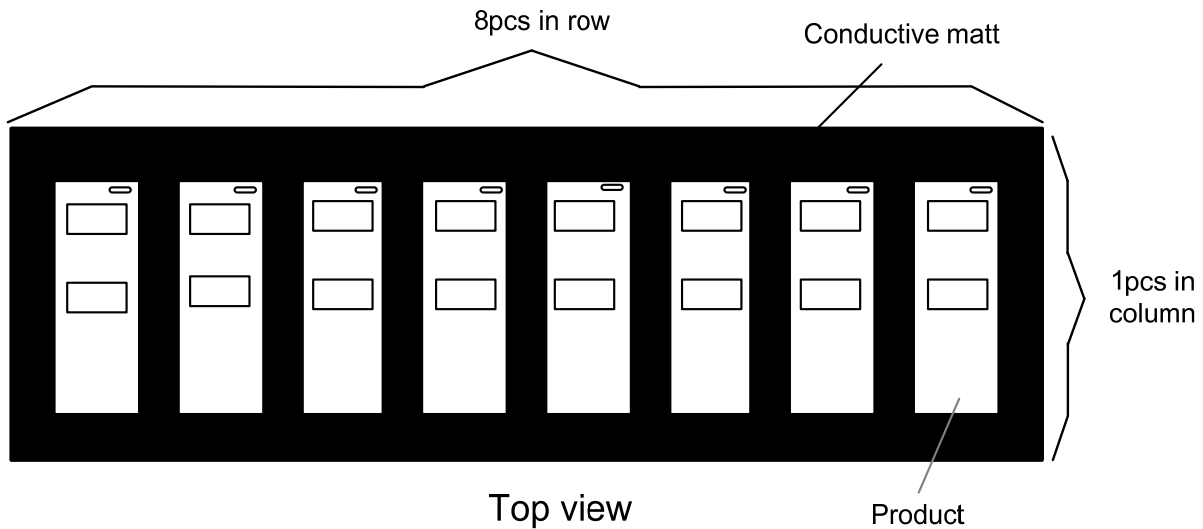

Fig.4
- ① Like the below figure, put the products on a conductive mat. (1row×8column) (See Fig.4)